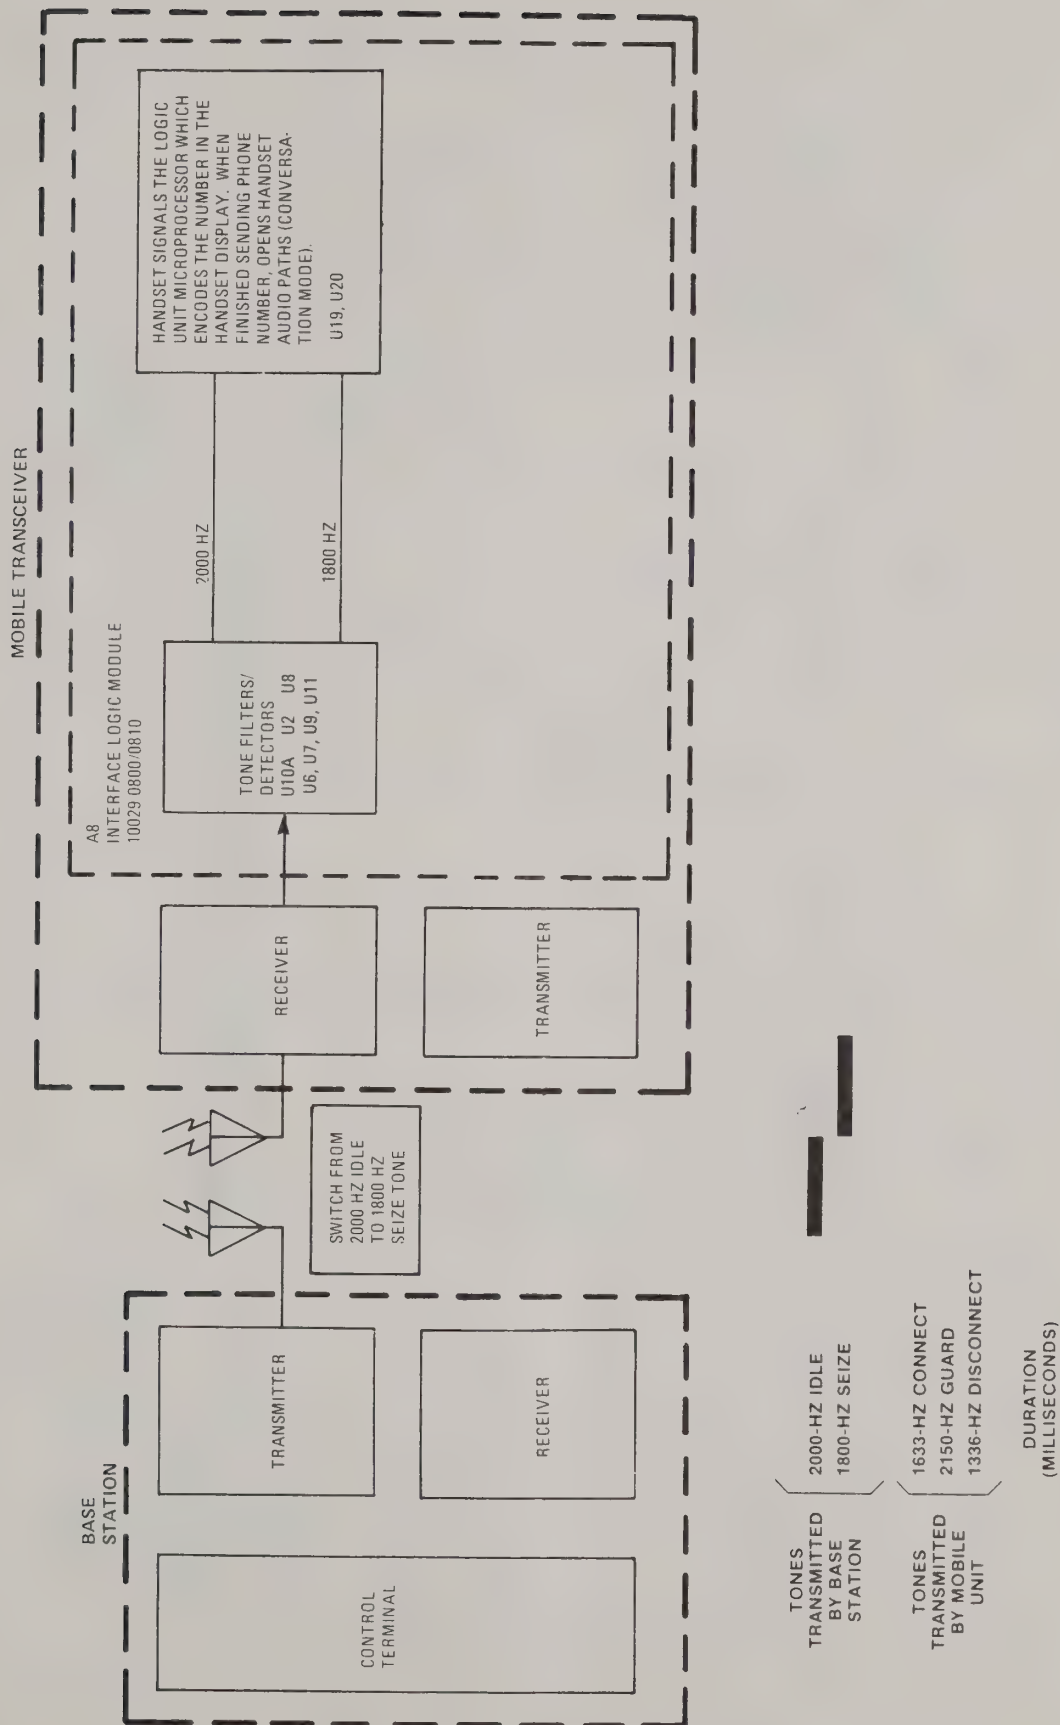

Figure 5. Functional Block Diagram, IMTS Mode, Landline-to-Mobile Call Sequence, Seizing by Base Station
- (1) Seizing by Base Station (Figure 5)